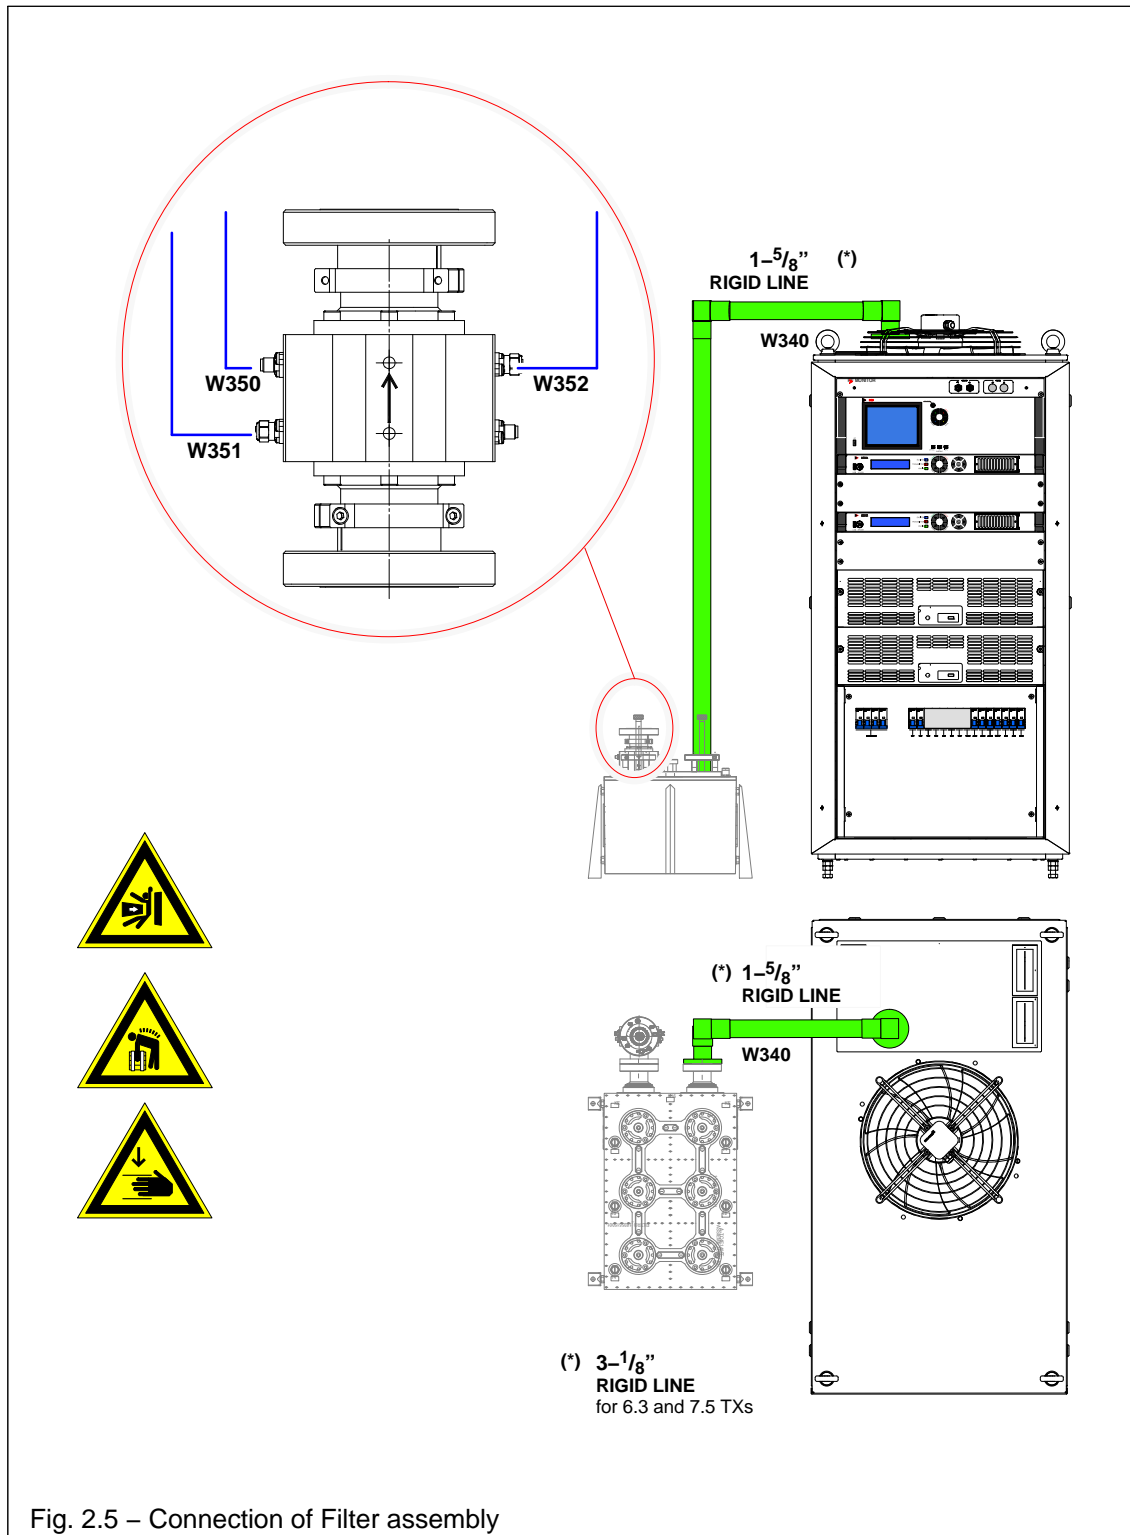

Fig. 2.5 – Connection of Filter assembly
2.2.4 Connection of the Filter assembly (optional) (refer to Fig. 2.5)